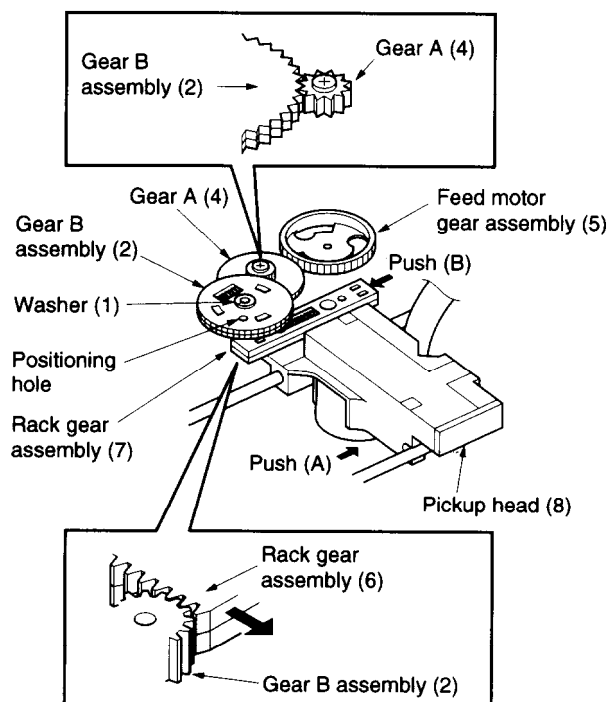

**Fig. 1-3-12**
- Remove the feed motor gear assembly (5) using screwdriver, etc. with care taken not to break the magnet. (Refer to Fig. 1-3-12.)
- Apply lightly the screwdriver, etc. end to the gear shaft and push upward, and pull out the feed motor gear assembly (5).